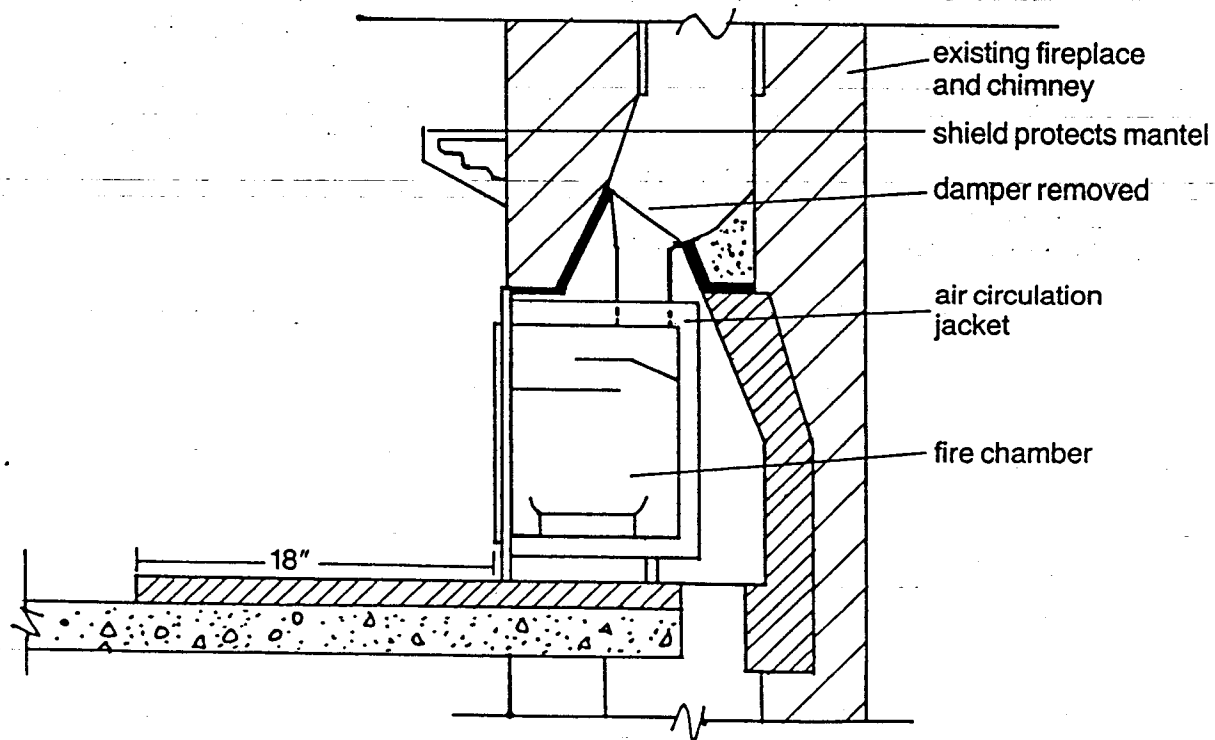

Figure 9.2
C. Fireplace inserts (see definition) (Fig. 9.2)